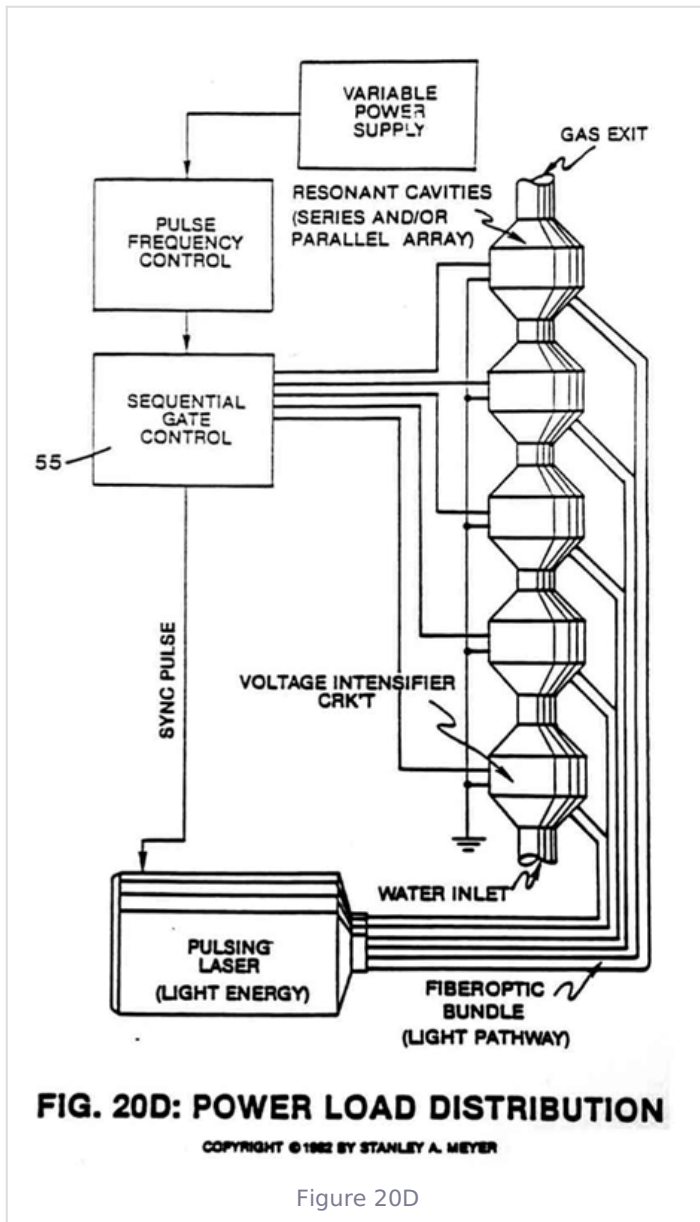

Figure 20D
6. Said **variable gate circuit** (55) of Figure 20D is now retrofitted to said **dual-pulsing circuit** 20C to extend gas production beyond the limits of a single resonant cavity, keeping power loading to a minimum while adding another gas control feature.
7. As shown in Figure 20D, said resonant cavities are stacked exit port to inlet port to accelerate said compounding-action per stage.
8. **Pulse-train** (53) and **pulse-train** (54) can be of different pulse voltage frequency with different voltage amplitude adjustments, each pulse-train performing different functions.
- Pulse-train** (53) regulates gas production on demand; whereas, **pulse-train** (54) maintains compounding action while restricting amp flow.